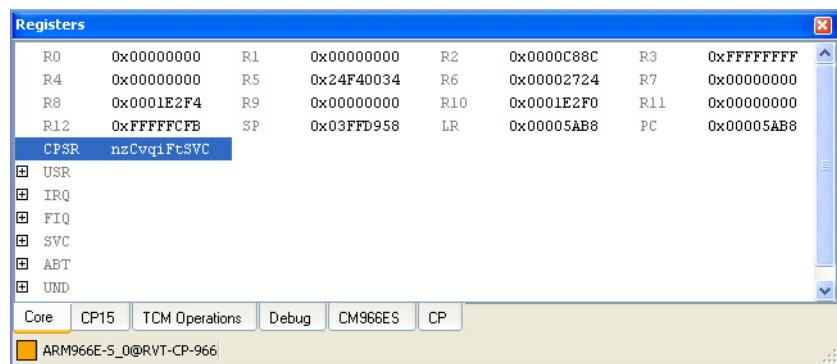

Figure 14-5 CPSR register view
2. Double-click on the CPSR register, shown in Figure 14-5.